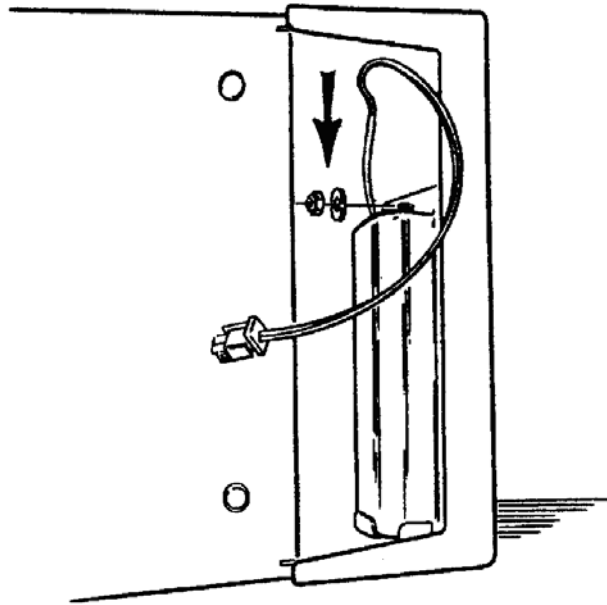

Figure 2-5. Nickel-Cadmium battery replacement.
- (1) Remove the two front screws holding the base to the chassis (figure 2-5).